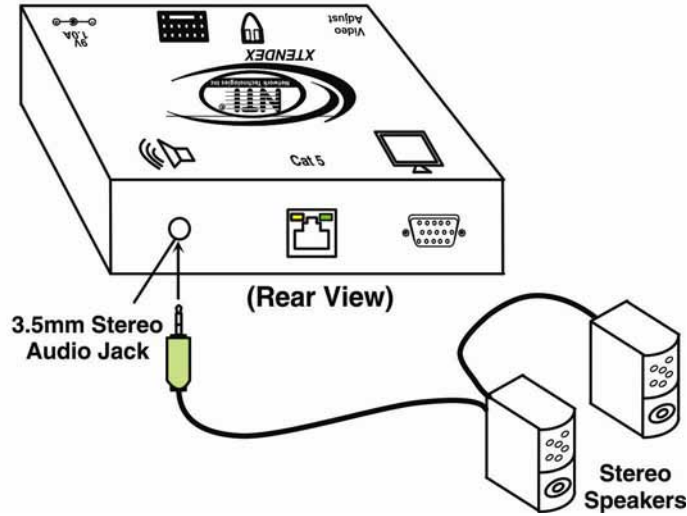

Figure 2- Connect speakers to the Remote Unit
4. If the Remote Unit has audio support, connect the cable from the remote speakers to the 3.5mm stereo audio jack on the Remote Unit. (See Figure 2)